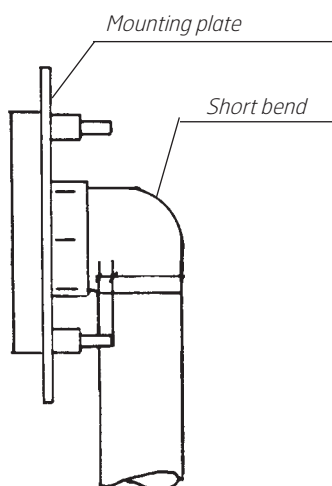

Fig. 7
**NB** On 3" walls, the end of the short bend labelled 3" must be on the mounting plate and, correspondingly, the opposite end on 4" walls. (Fig. 7).